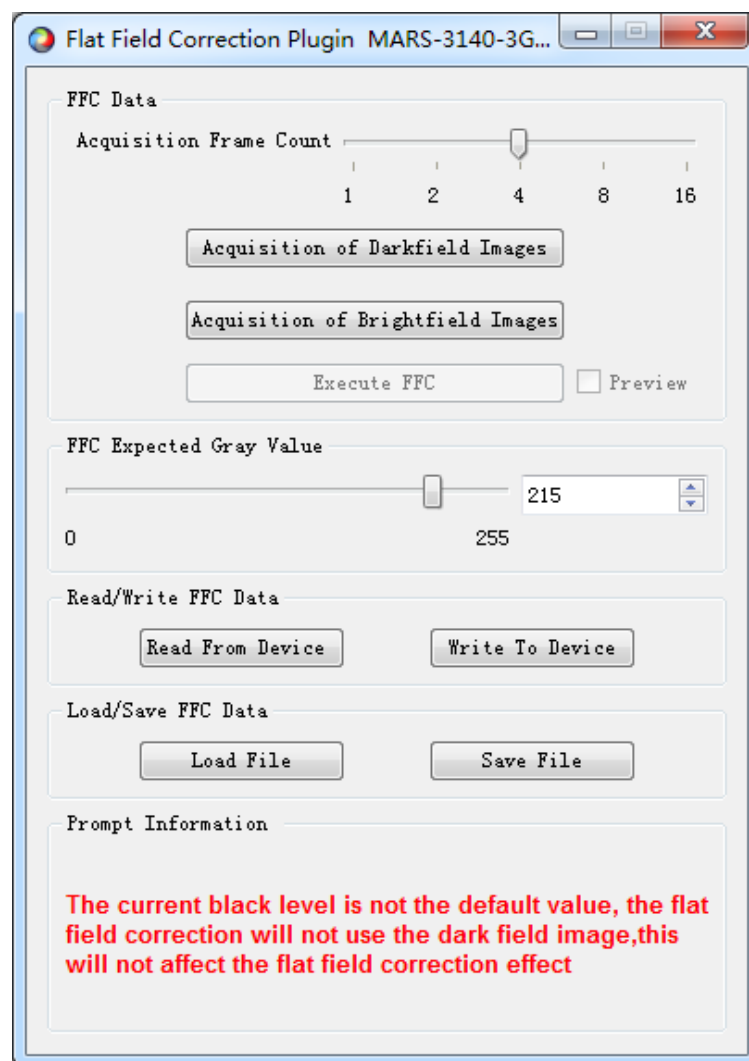

Figure 9-14 The black level is not the default value
- 4) When acquiring the darkfield image, if the black level is not the default value, the prompt information given in the prompt box is as shown in Figure 9-14. That is, when the flat field correction is executed, the darkfield image is not used, and the effect of flat field correction is not affected.